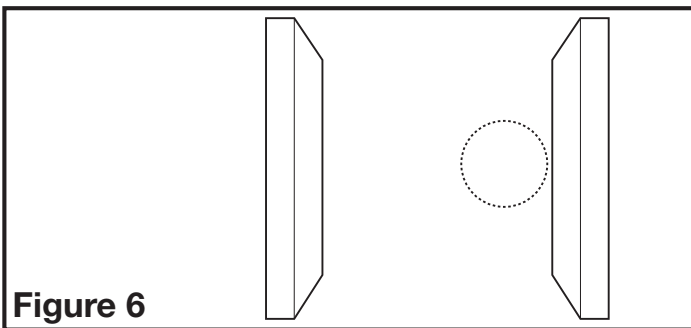

Figure 6
1. Place the collar/damper in the selected location and trace a circle onto the surface. From the interior side of the room, cut through the surface. Please note: Take care not to damage the ceiling and make a smooth cut (**Figure 6**).